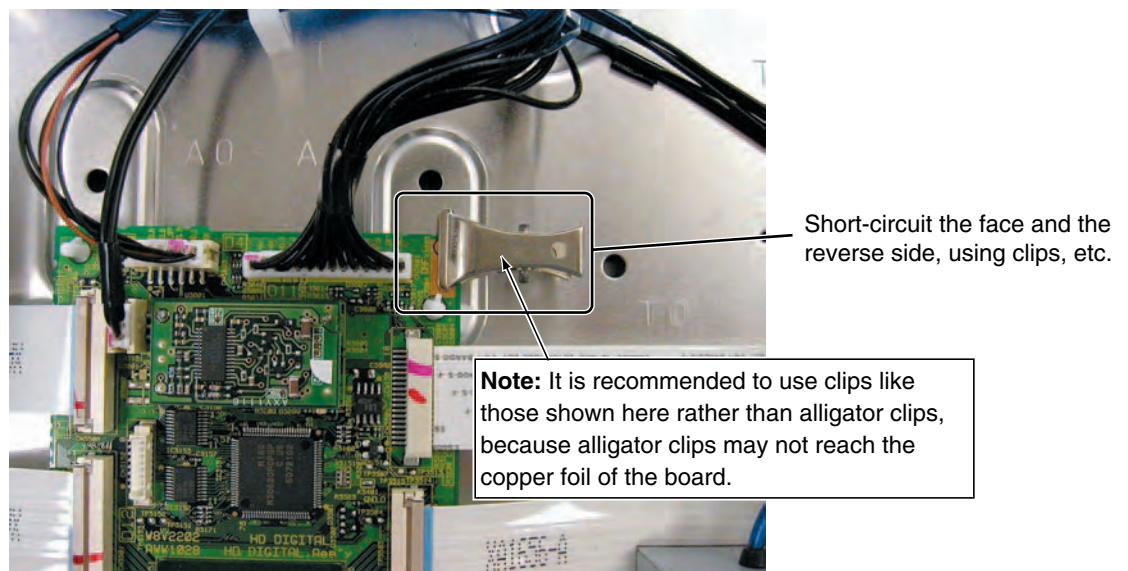

Fig. 4 Position of DRIVE OFF
1. Short-circuit the points (see Fig. 4 below) on the face and on the reverse side of the HD DIGITAL Assy.